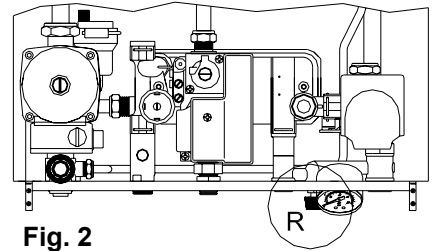

Fig. 2
- **close the filling tap R (see fig. 2) once this operation is completed;**
- set ON/OFF switch in OFF position (fig.1 page 9), insert a gauge into the pressure point no.4 (fig.2 page 11). Turn ON the boiler and check the minimum and maximum gas pressure setting in accordance with values stated on the gas data plate (to check maximum gas pressure value, turn ON a hot water tap and check that the maximum pressure is equal to that stated on the gas data plate; to check the minimum gas pressure, close the hot water tap, and select WINTER mode, the pressure gauge will show the minimum gas pressure value for 10 seconds. If the pressure values are not the same as those stated on the gas data plate, calibrate pressure again